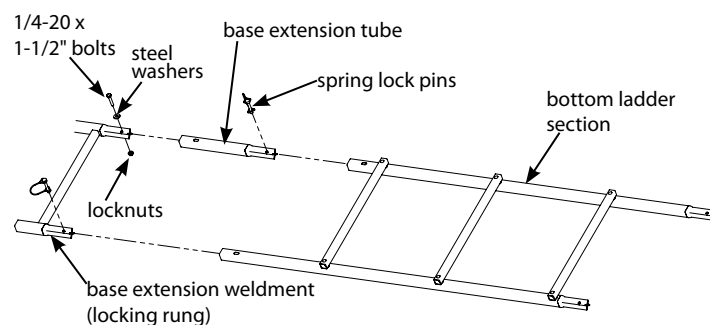

Figure 6
9. Insert one side of the base extension weldment (410044) into the base extension rail tube (410040) and secure with (1) provided 1/4-20 x 1-1/2" bolt, locknut and steel washer. **SEE FIGURE 6.** This step now makes this the "locking rung".
10. Take the factory assembled ladder sections and unfold them to their fully deployed width. Insert the previously assembled base extension into (1) 3-step ladder section (410032) and secure with (2) spring lock pins. Handle of spring lock pins must be put to the outside of the ladder side rails. **SEE FIGURE 6.** This step now makes this the bottom ladder section.